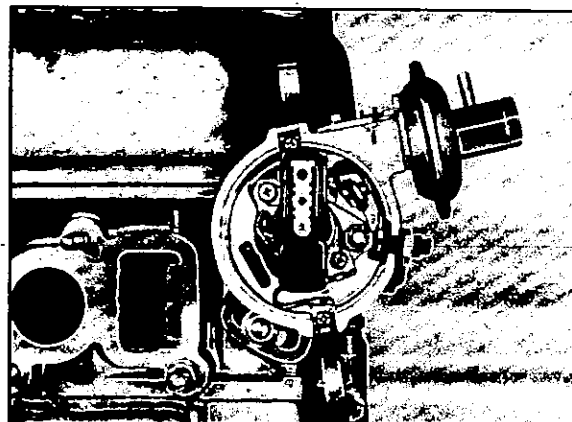

Fig. EM-85 Location of distributor rotor
35. Install the distributor so that the vacuum controller and the rotor are in positions shown in Figure EM-85. Temporarily tighten the lock nut.